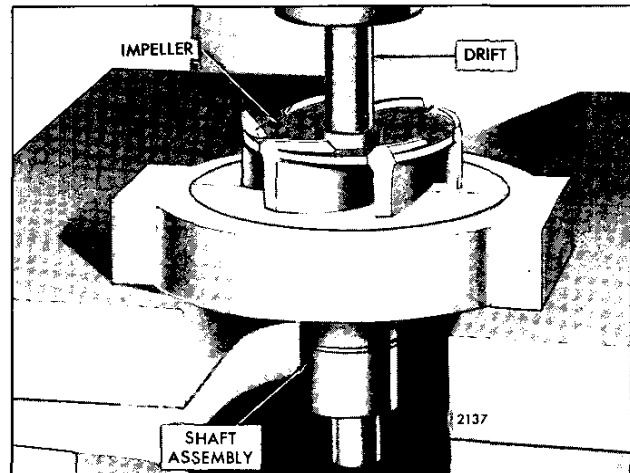

Fig. 8 - Removing Shaft from Impeller with Tools J 8329 and J 358-1
4. Use plates J 8329 and holder J 358-1 to press the shaft out of the impeller (Fig. 8).